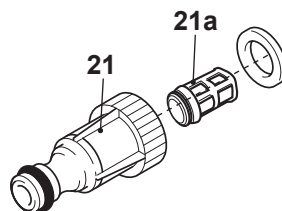

Fig. 25
1. Unscrew and remove the water inlet hose adaptor (21) from the water inlet (6).
2. Disassemble the water inlet hose adaptor (21) (Fig. 25).